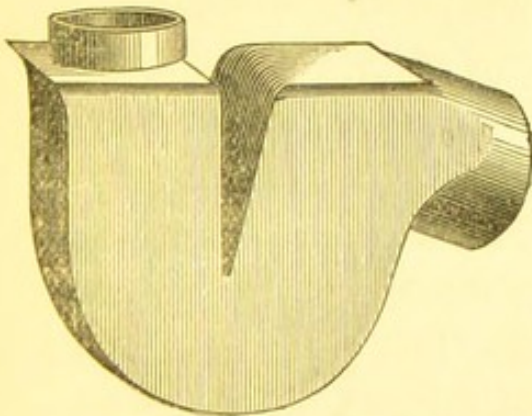
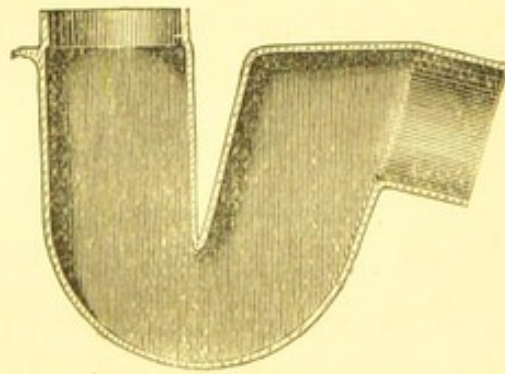

FIG. 10.
FIG. 11. SECTION.
*“Mansion” Water-closet Trap or “V-Dip” Trap.*—This trap, Fig. 10 (also see Section, Fig. 11),